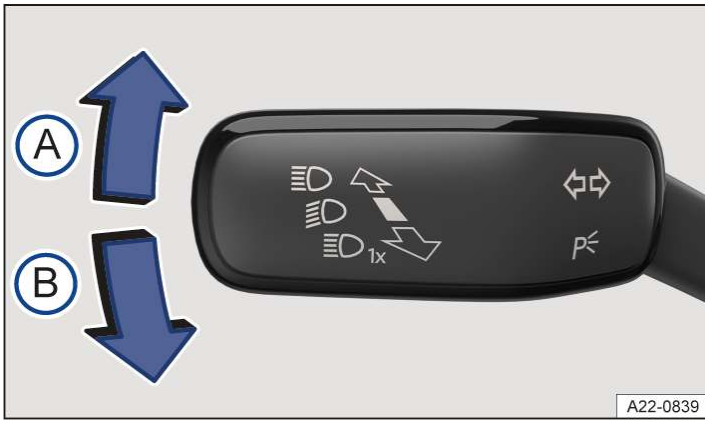

Fig. 1 On the left-hand side of the steering column: turn signal and main beam lever.
2. Move the lever from the centre position to the required position → Fig. 1.